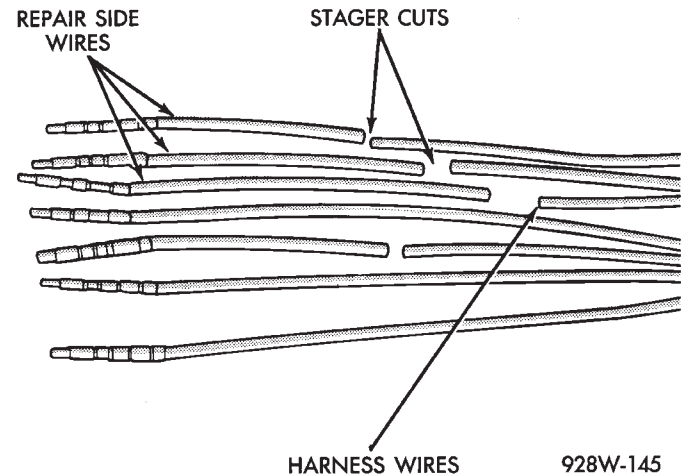

Fig. 18 Stagger Cutting Wires
- (1) Disconnect battery.
- (2) Disconnect the connector (that is to be repaired) from its mating half/component.
- (3) Cut off the existing wire connector directly behind the insulator. Remove six inches of tape from the harness.
- (4) Stagger cut all wires on the harness side at 1/2 inch intervals (Fig. 18).
- (5) Remove 1 inch of insulation from each wire on the harness side.
- (6) Stagger cut the matching wires on the repair connector assembly in the opposite order as was done on the harness side of the repair. Allow extra length for soldered connections. Check that the overall length is the same as the original (Fig. 18).
- (7) Remove 1 inch of insulation from each wire.
- (8) Place a piece of heat shrink tubing over one side of the wire. Be sure the tubing will be long enough to cover and seal the entire repair area.